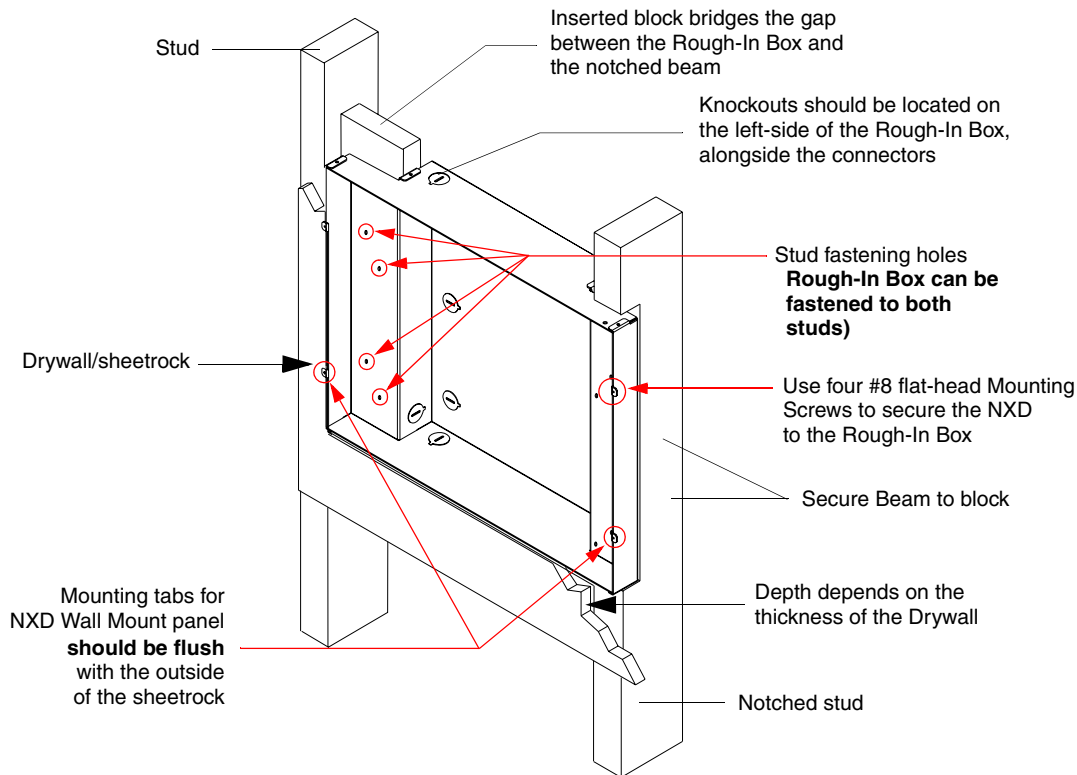

FIG. 3 Screw locations for Rough-In Box attachment in a pre-wall installation
6. Fasten the CB-TP17 to the **Notched stud/beam** through the stud fastening holes, located on the inside of the Rough-In Box (FIG. 3), by using either nails or screws.
8. Secure the perpendicular block to the **Non-Notched stud/beam** (FIG. 3) by using either nails or screws.
9. Fasten the CB-TP17 to the **block** through the stud fastening holes, located on the inside of the Rough-In Box (FIG. 3), by using either nails or screws.
10. Remove any necessary wiring knockouts from the (optional) Rough-In Box (CB-TP17) (FIG. 3) where the necessary cables are threaded through for connection to the touch panel.